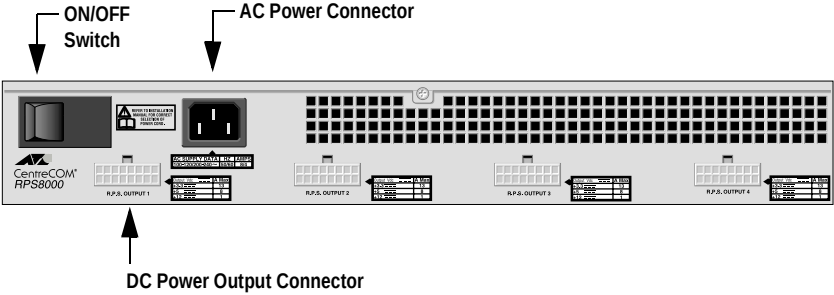

Figure 4 Back Panel of the AT-RPS8000 Unit
4. Attach the provided DC power cord to the DC output connector on the back panel of the AT-RPS8000 unit, directly behind the pre-installed AT-PWR8000. (Refer to Figure 4 for the DC output connector.)
6. Plug the AC power cord for the AT-RPS8000 into the AC connector on the back panel of the unit. (Refer to Figure 4 for the AC connector.)
8. Turn on the AT-RPS8000 using the switch on the back panel of the unit. (Refer to Figure 4 for the ON/OFF switch.)